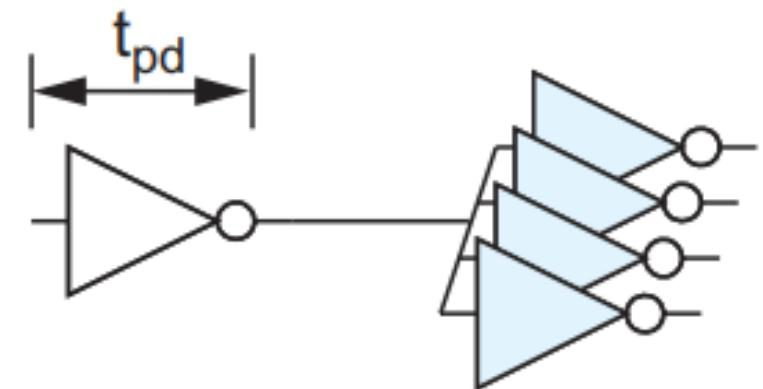

FIGURE 4.14 Fanout-of-4 (FO4) inverter
4. If a unit transistor has $R = 10 \text{ k ohm}$ and $C = 0.1 \text{ fF}$ in a 65 nm process, compute the delay, in picoseconds, of the inverter in Figure 4.14 with a fanout of $m = 4$.